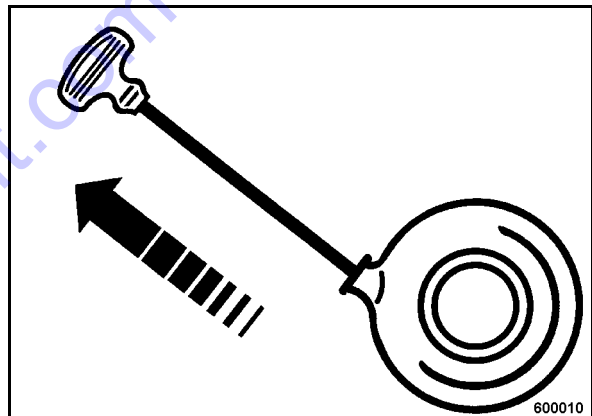

Fig. 16
- Pull the rope by the starter handle quickly and powerful as far out as possible (Fig. 16).